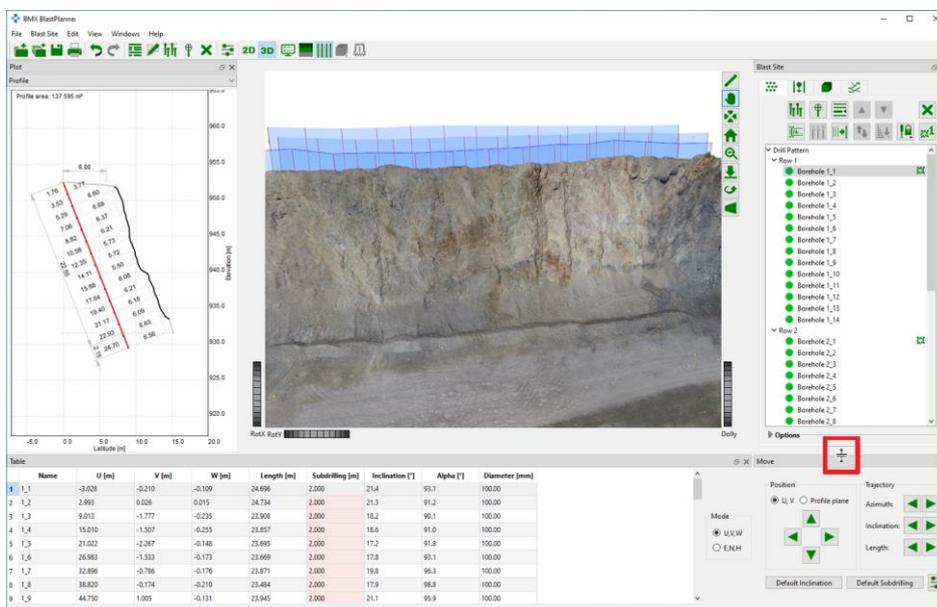

Figure 16: Change the size and shape of a pane with the mouse by clicking at the pane's boundary. The mouse cursor turns into a double arrow.
- The size and shape of the panes can be adjusted with the mouse (see Figure 16)